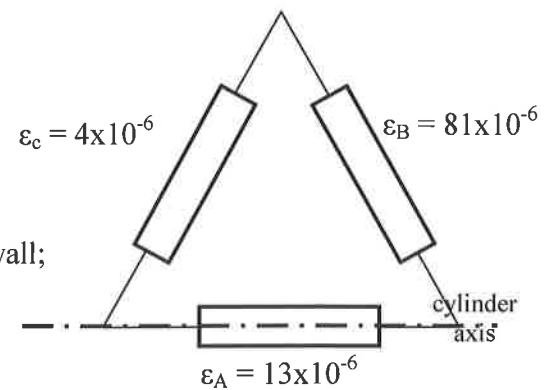

Figure Q2
2. A thin cylinder with closed ends has internal and external diameters of 220 mm and 240 mm respectively. The cylinder is subject to an internal pressure p and an axial torque T . A 60° delta strain gauge rosette attached to the cylinder surface gave the readings indicated in Figure Q2.